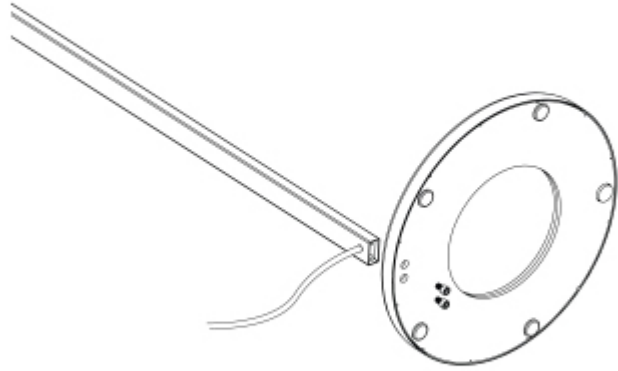

Figure 2
3. Position the weighted base at the end of the lamp stem. With the assistance of a second person, align the holes in the weighted base to the holes in the bottom of the lamp stem, insert the two Allen head screws into the holes and use the provided Allen wrench to fasten the components together completely. Ensure each screw is tightened fully before moving on to the next step. (Figure 2)